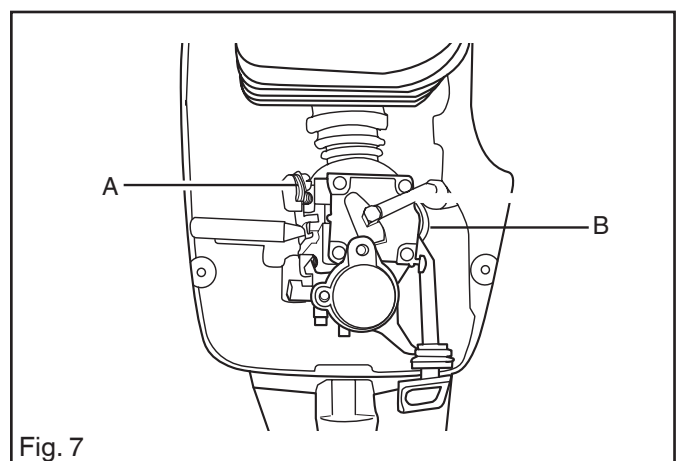

Fig. 7
11. Fit the fuel pipe (B) on the carburettor. See fig. 7.
12. Insert the throttle cable casing in the attachment and hook on the throttle cable (A) on the carburettor. See fig. 7.